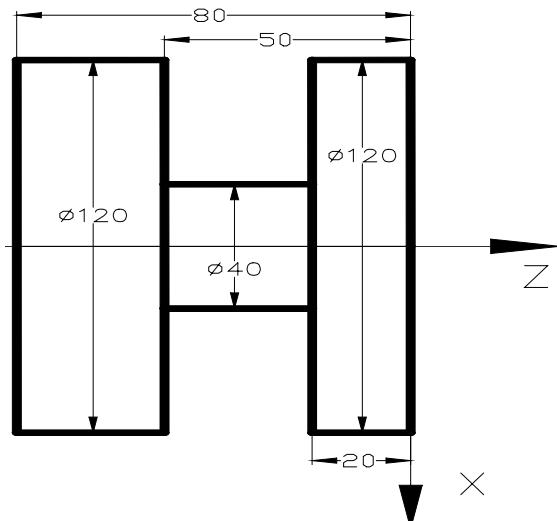

Fig. 3-32 G75 cutting
- ④ Axial(Z axis) rapid tool retraction  $\Delta d$  (radius value) to  $C_n$  , when the coordinates of  $B_f$  (cutting end point) is less than that of A (starting point) in Z direction, retract tool in Z positive, otherwise, retract tool in Z negative direction;
- ⑤ Radial(Z axis) rapid retract tool to  $D_n$ , No. n radial cutting cycle is completed. The current radial cutting cycle is not the last one, execute ⑥ ; if it is the previous one before the last radial cutting cycle, execute ⑦;
- ⑥ Axial(X axis)rapid tool infeed, and it direction is opposite to ④ retract tool. If the end point of tool infeed is still on it between A and  $A_f$  (starting point of last radial cutting cycle) after tool infeed ( $\Delta d+\Delta k$ ) (radius value) in Z direction, i.e.  $D_n \rightarrow A_{n+1}$  and then execute ① (start the next radial cutting cycle); if the end point of tool infeed is not on it between  $D_n$  and  $A_f$ after tool infeed ( $\Delta d+\Delta k$ ) in Z direction, rapidly traverse to  $A_f$  and execute ① to start the first radial cutting cycle;
- ⑦ Rapidly traverse to return to A in Z direction, and G75 is completed.
- The cycle movement is executed by X (W) and P ( $\Delta i$ ) blocks of G75, and the movement is not executed if only “G75 R(e);” block is executed;
- $\Delta d$  and e are specified by the same address R and whether there are X(U) and P( $\Delta i$ ) words or not in blocks to distinguish them;
**Example:** Fig. 3-32